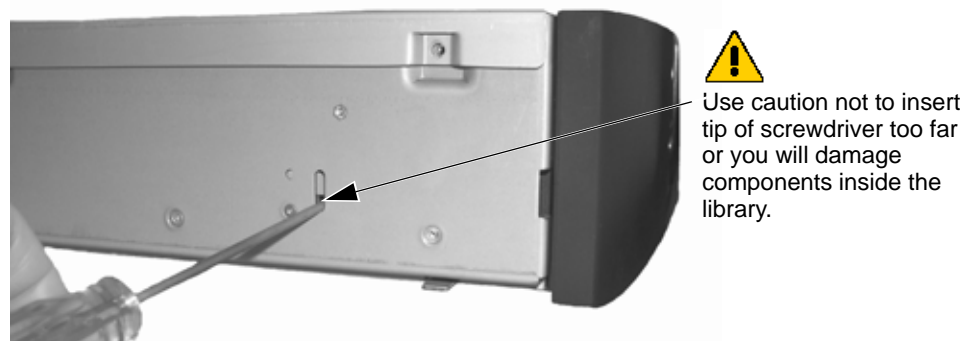

Figure 7-10 Manual magazine release
2. Insert the tip of a small flat-blade screwdriver into the bottom of the small slot and gently lift up to disengage the locking mechanism (see Figure 7-10). Each side of the library has an access slot—one for each magazine. The magazine will disengage and move a short distance out of the library.